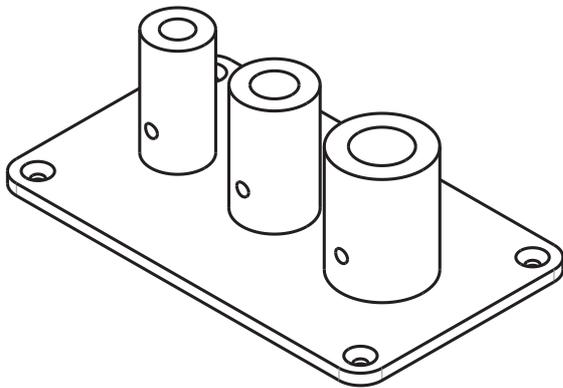

Figure 1: Mounting plate V01 isometric view
10. Loosen the 4 nuts (920.03) fitted on the tie-bolts (905) crosswise and equally. If mounted, remove the sticker plate holder (89-11.05).
11. Lift the motor stool (341) from the pump shroud (10-6).
12. Lift the cover (160) of the pump shroud.
14. Lift the hydraulic parts from the pump casing (101) by means of a pin \varnothing 5 [mm] through the coupling pinhole at the top of the shaft (210).
15. Place the shaft with the top end facing downwards in a jaw bench or place and lock it into a shaft support accessory, see figure: 1 Mounting plate V01 isometric view.
16. Remove the lock nut with non-metallic insert (920.02) from the shaft (210) and take all hydraulic parts from the shaft. It is recommended to number the different parts in sequence of disassembling.
17. For V(S) 2, 4, 6 B remove the pump casing (101) from the base plate (890).